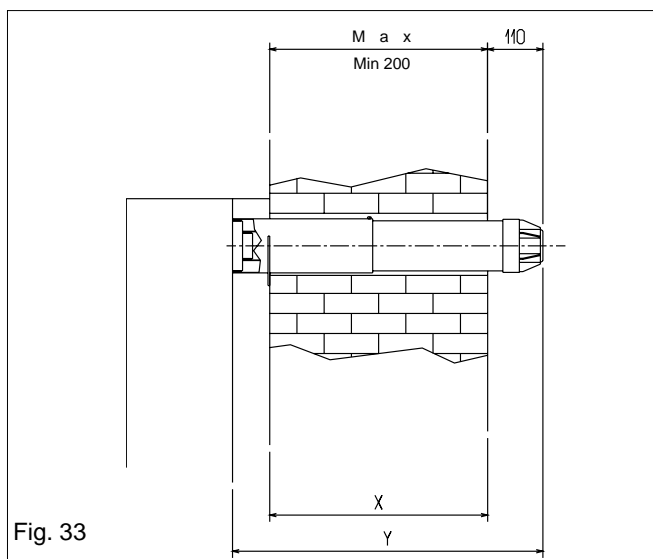
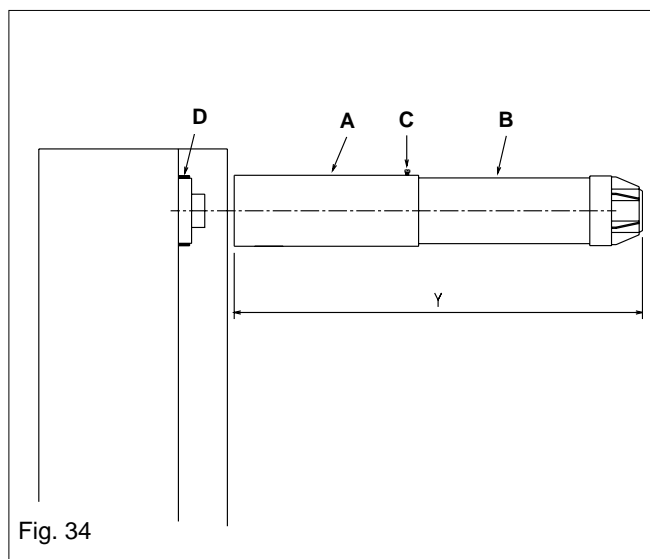
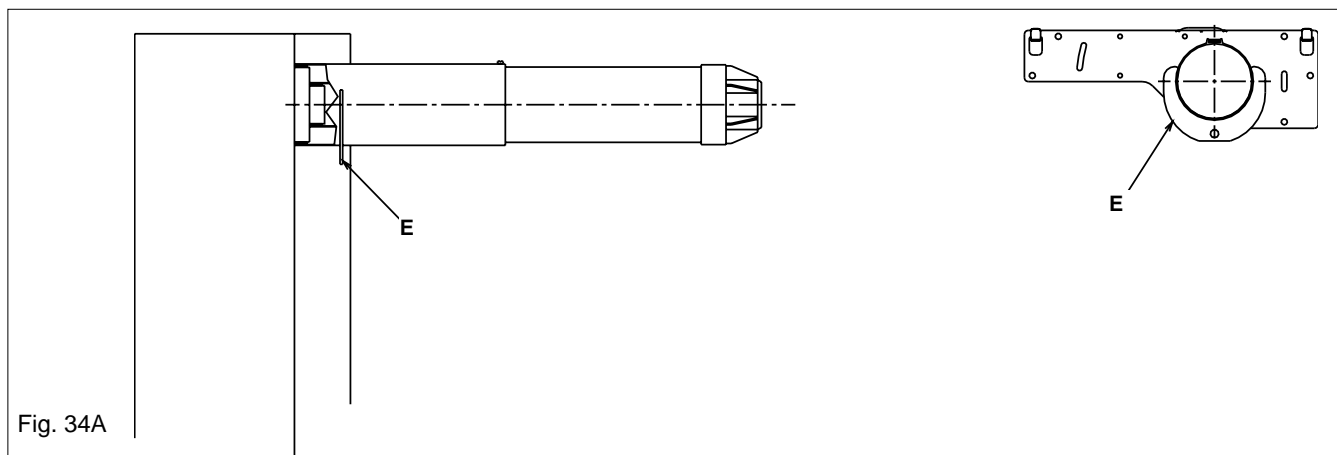

Fig. 33
Fig. 34
Fig. 34A
11.1 FITTING THE FLUE (see fig. 33)
Carefully measure the thickness of the wall (dimension x - fig. 33). Take the outer concentric flue pipe (A) and – using a twisting action – ease it over the inner concentric flue pipe (B) (fig. 34). Add 210 mm to 'x' to give you dimension 'y'. Push both the inner and outer concentric flue pipes together until the total length of the flue assembly is equal to dimension 'y'. Secure the flue assembly in place by using the screw provided (C).
Pull the flue assembly firmly towards and over the appliance flue spigot (fig. 34A) and – using a twisting action – ensure the correct seal is made. Insert the locking collar (E) into the groove on the flue assembly as shown in fig. 34 a and rotate to conceal.